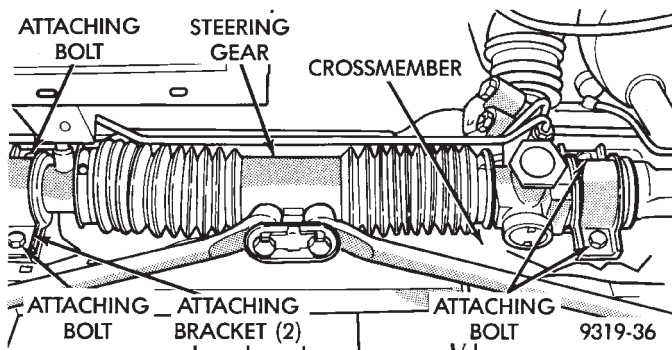

Fig. 12 Steering Gear Attachment To Crossmember
(19) Remove the 4 bolts attaching steering gear assembly to crossmember (Fig. 12).